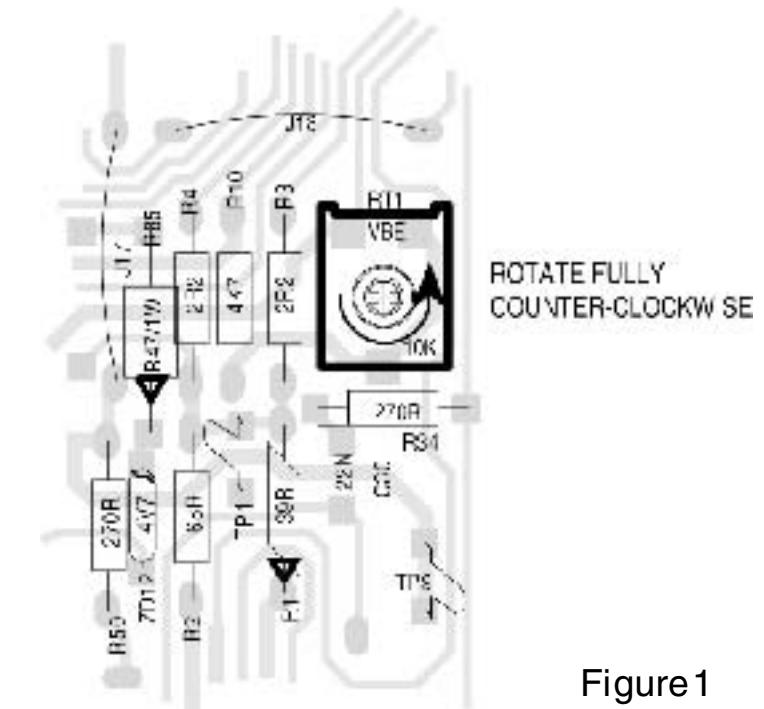

Figure 1
STEP 4. Rotate the trim pot RT1 fully counter - clockwise as in figure 1. Inspect and replace any resistors that look burnt. Measure all of the resistor values coloured YELLOW on the assembly drawing. The value that you measure may not be exactly what is shown on the assembly drawing but if the resistor doesn't look damaged it should measure within + or - 5% of the printed value.